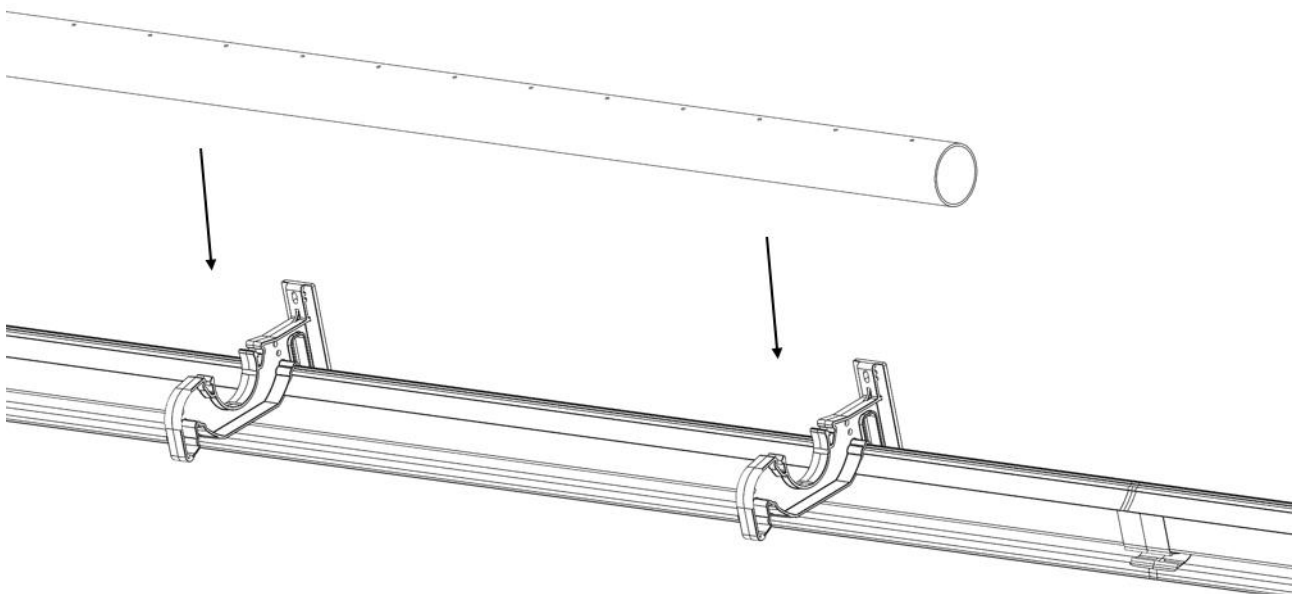

Figure 22
Insert the Water Distribution Pipe [ref. 12] in the Top Brackets. See Figure 22.